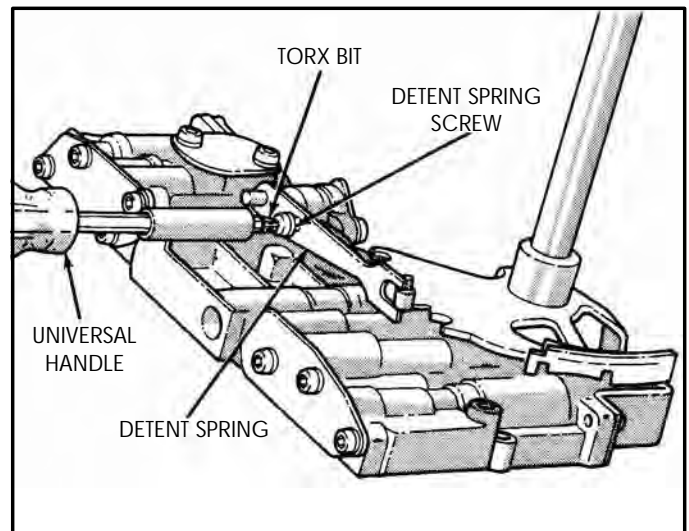

Figure 111
23. Install the detent spring onto the valve body, as shown in Figure 111, and torque the screw to 40 in.lbs.